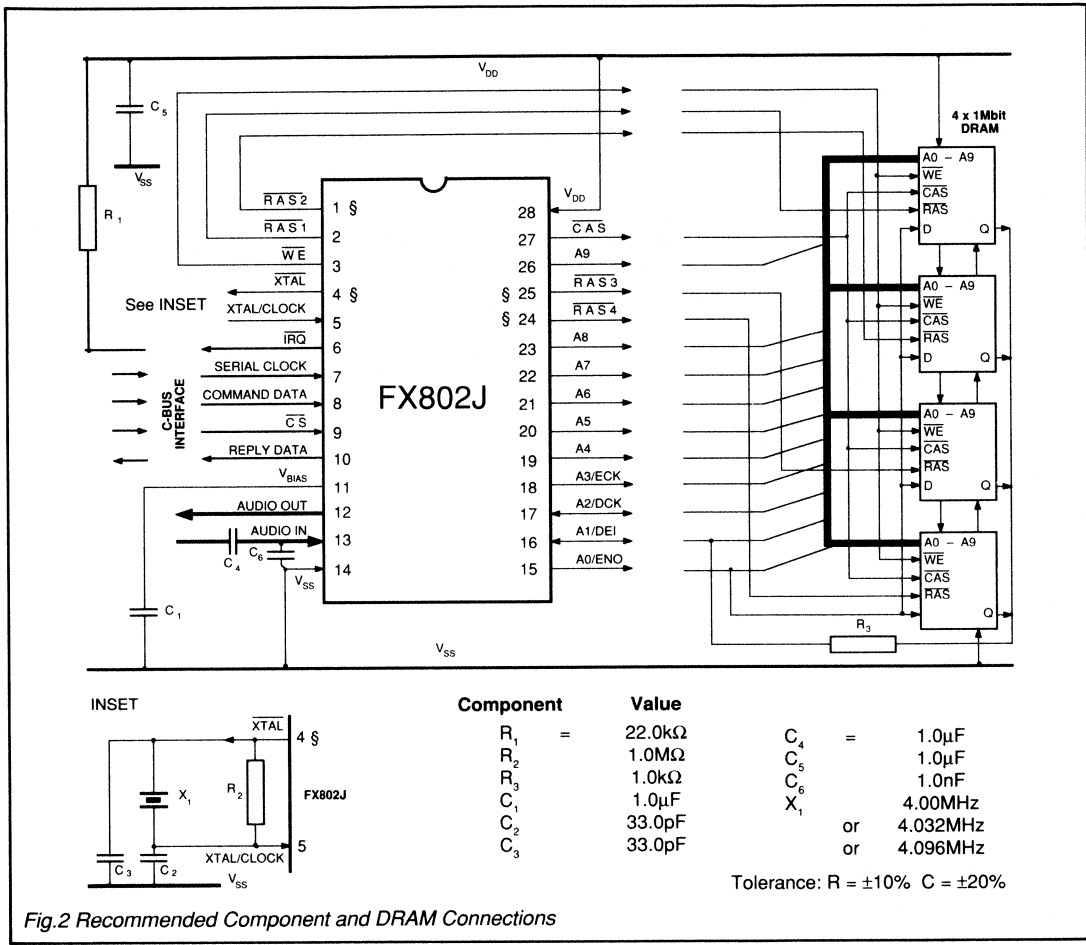

Fig.2 Recommended Component and DRAM Connections
- Figure 2 (above) shows connections to 4 x 1Mbit sections of DRAM. If desired, to simplify PCB layout, the DRAM inputs A0 to A8 may be connected in any order to the FX802 DVSR Codec output pins A0 to A8. Connections to 256kbit DRAM are similar, but A9 unconnected.